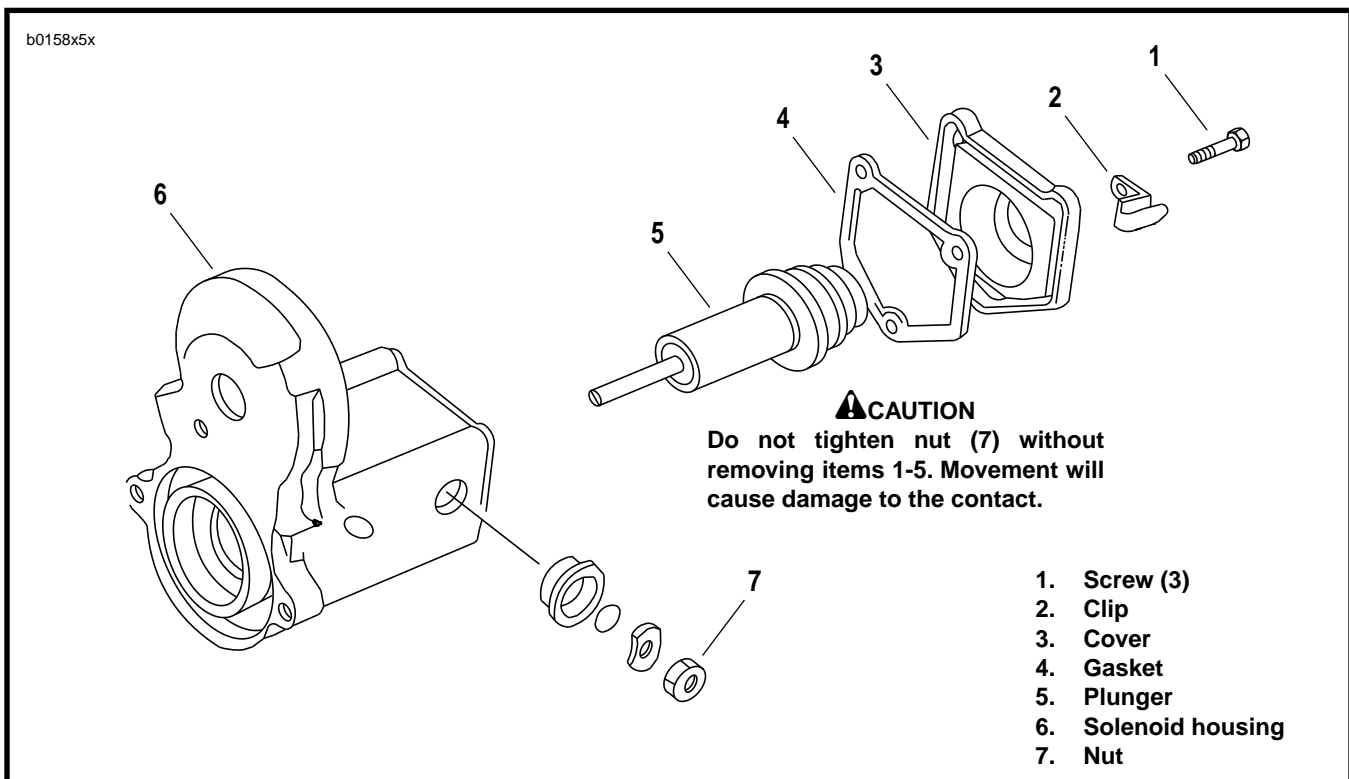

Figure 5-25. Starter Solenoid
See Figure 5-25. The starter solenoid is a switch that is designed to open and close the starting circuit electromagnetically. The switch consists of contacts and a winding around a hollow cylinder containing a movable plunger.
1. See Figure 5-25. Remove screws (1) and clip (2).
2. Remove cover (3) and gasket (4). Discard gasket.
3. Remove plunger (5) from solenoid housing (6).
1. See Figure 5-25. Replace wire connection hardware as necessary.
2. Install plunger (5) in solenoid housing (6).
3. Install **new** gasket (4) onto cover (3).
4. Position cover with gasket onto solenoid housing. Install clip (2) and screws (1).